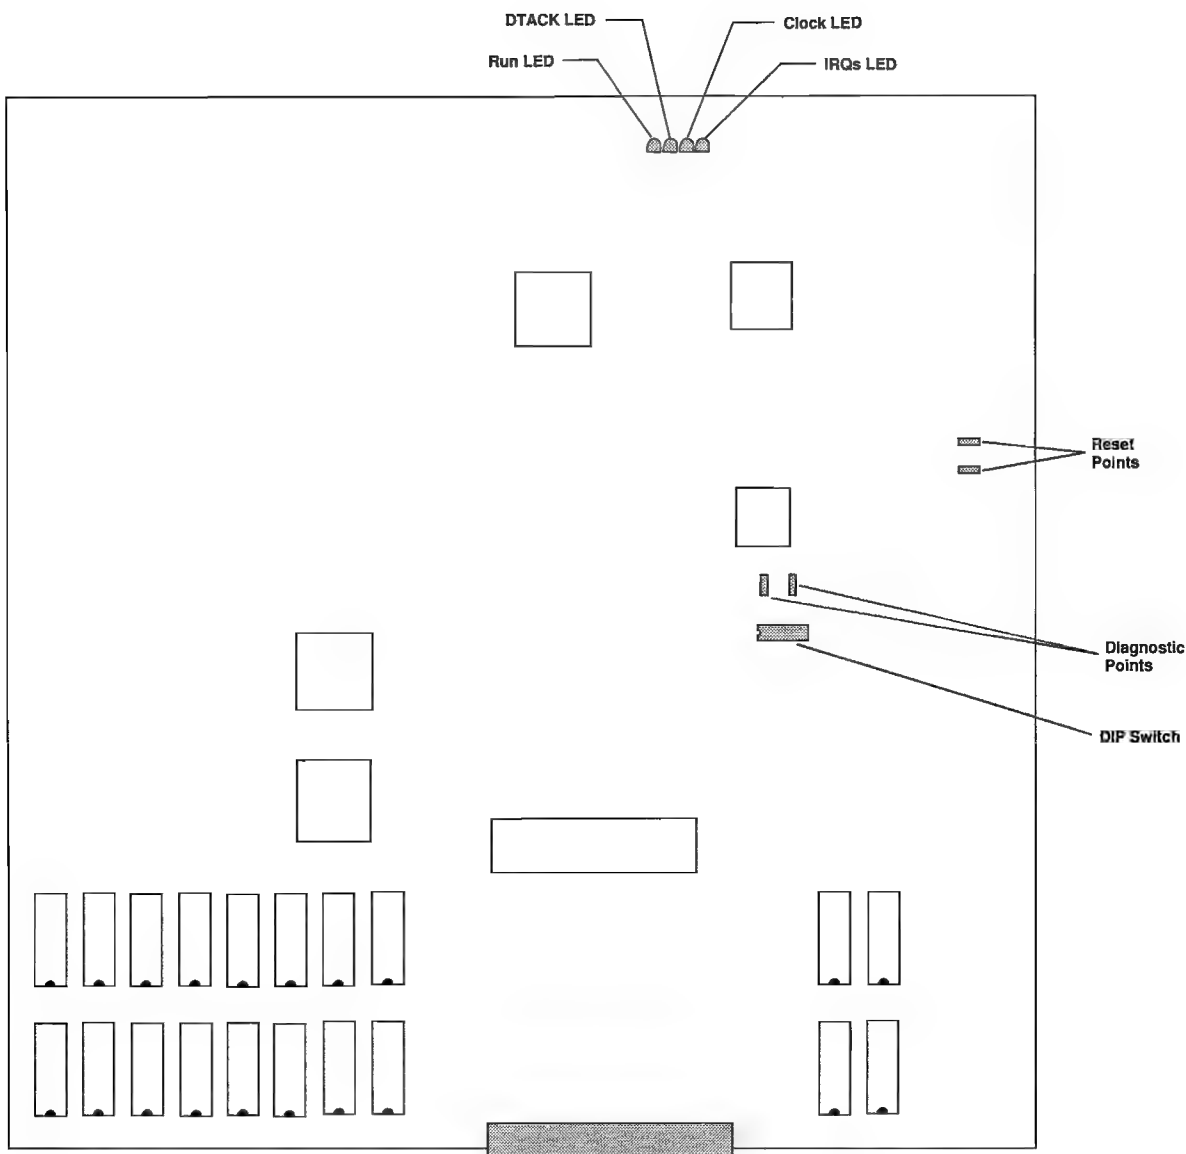

Figure 2-28 DIP Switch and LED Locations on the Main PCB
Figure 2-28 shows the location of the LEDs on the main PCB. Table 2-7 shows the possible status of the LEDs, with an explanation of what they indicate.
1. Put a jumper across the DIAGN test points, shown on Figure 2-28.
4. Put a jumper momentarily across the RESET test points, shown in Figure 2-28.
2. Put a jumper momentarily across the RESET test points, shown in Figure 2-28.